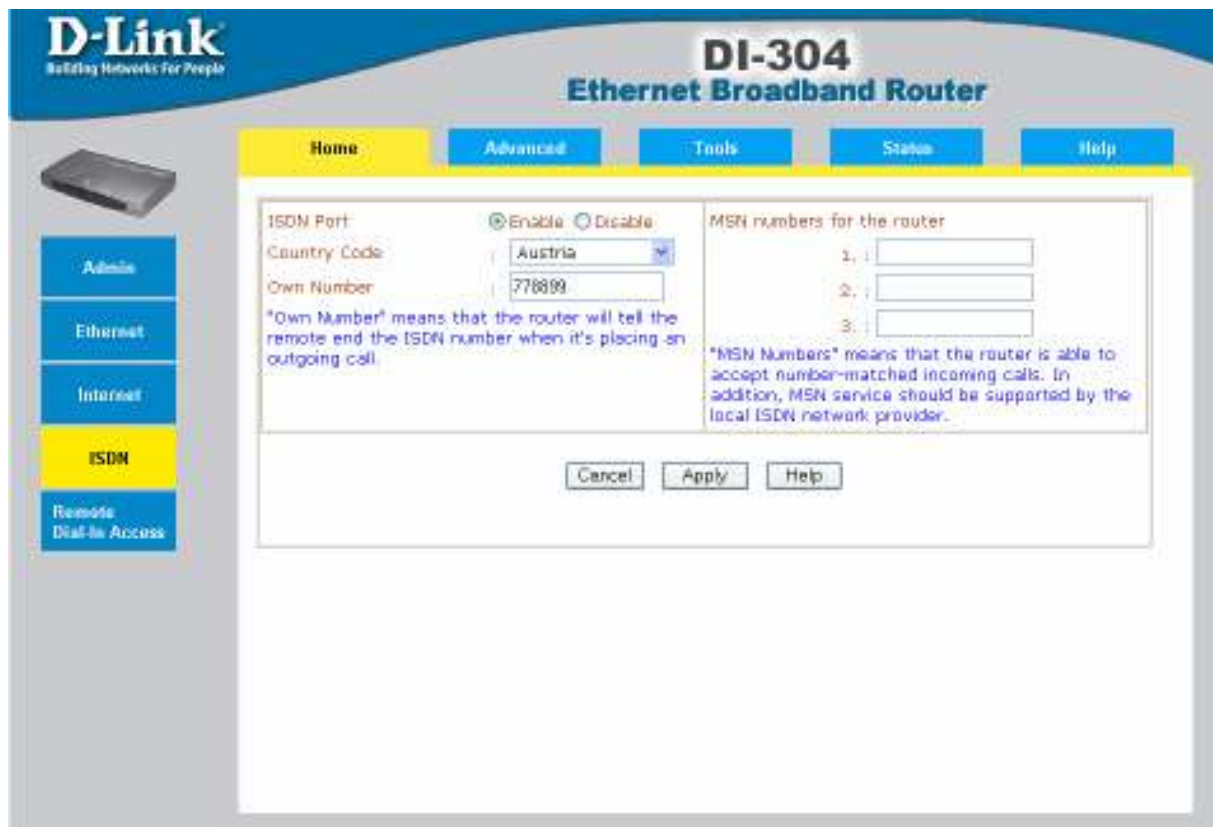

Figure 25: ISDN Configuration of ISDN Router 1
2. The second step is to configure the local ISDN settings (see Figure 25). The ISDN port is enabled and the own telephone number has to be entered.